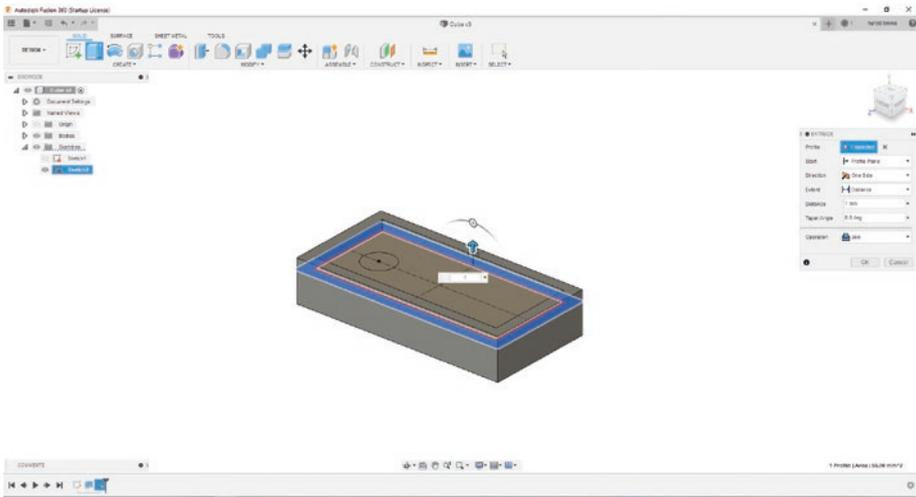

Figure 3-70. *Extrude the border to 1mm*
25. Now click the Extrude button on the “CREATE” menu and click the border area we created with the Offset function; extrude the border 1mm. Press “Enter” when you are finished. See Figure 3-70.